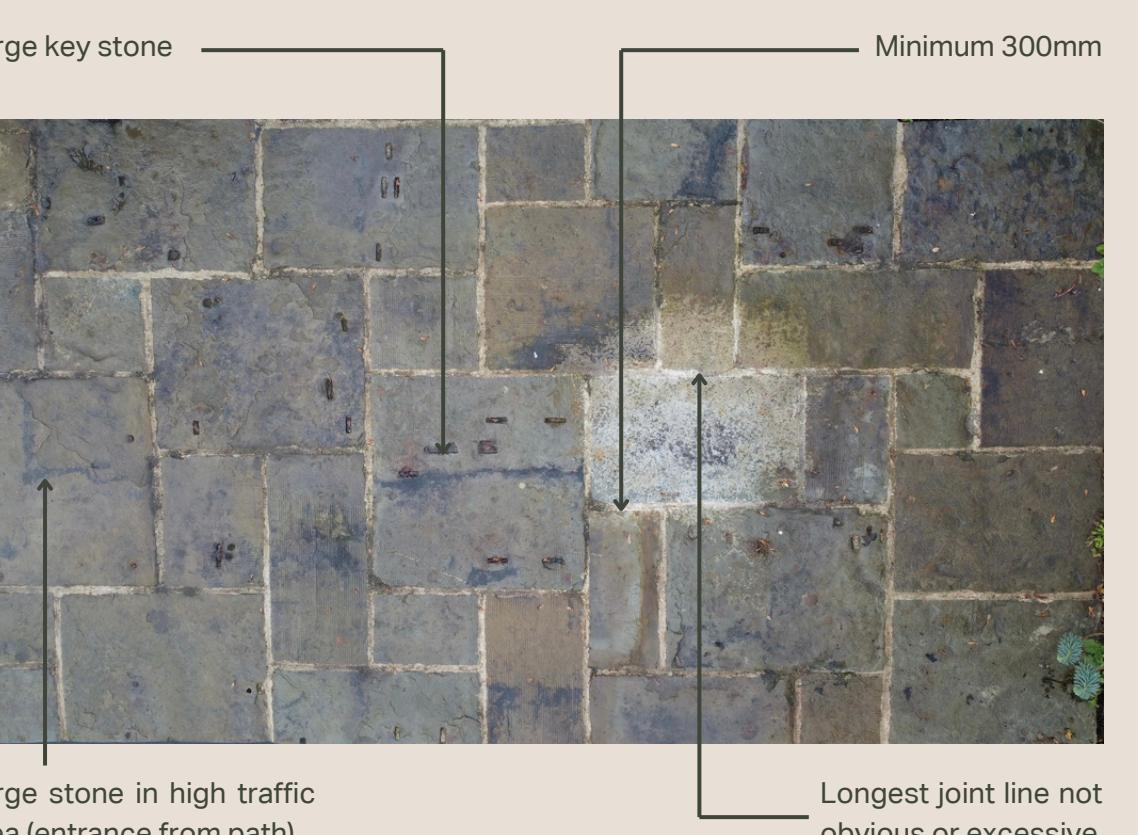

Fig. 2: Typical laying pattern
2.7.1 Plan your laying pattern (SEE FIG. 2):